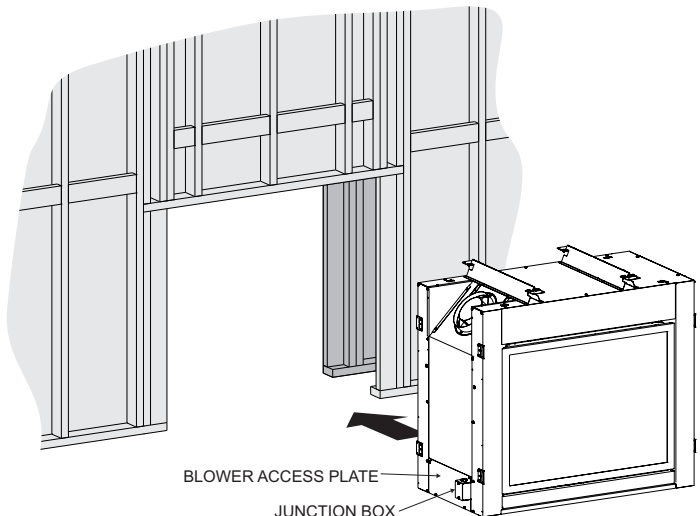

Figure 24
- After the fireplace has been properly positioned inside the frame work, or the frame work has been built around the fireplace, the nailing flanges shall be bent 90 degrees and the fireplace should be attached to the frame work using 24 (SP) or 18 (PP) drywall screws. Temporarily remove blower access plate and tuck junction box inside fireplace before setting in place. See **Figure 24**.